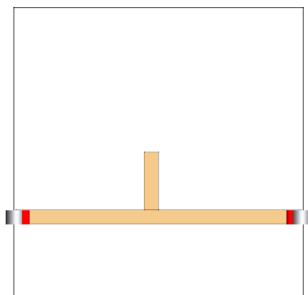
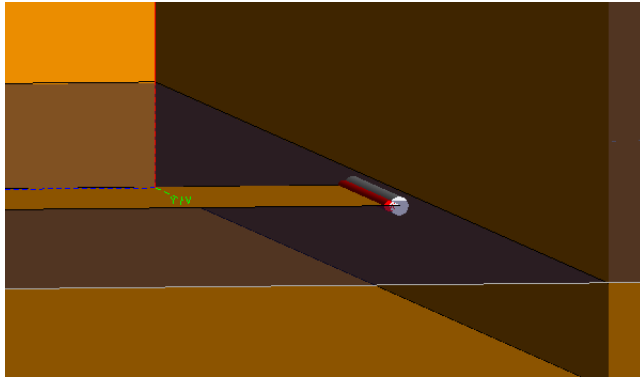

Figure 98: Microstrip ports were added to the edges of the feedline. Note that the infinite plane is hidden and a cutplane was added to show the port locations.
Figure 99: Zoomed in 3D view of one of the microstrip ports.
7. Add microstrip ports to the edges of the feedline (see Figure 98 and Figure 99).